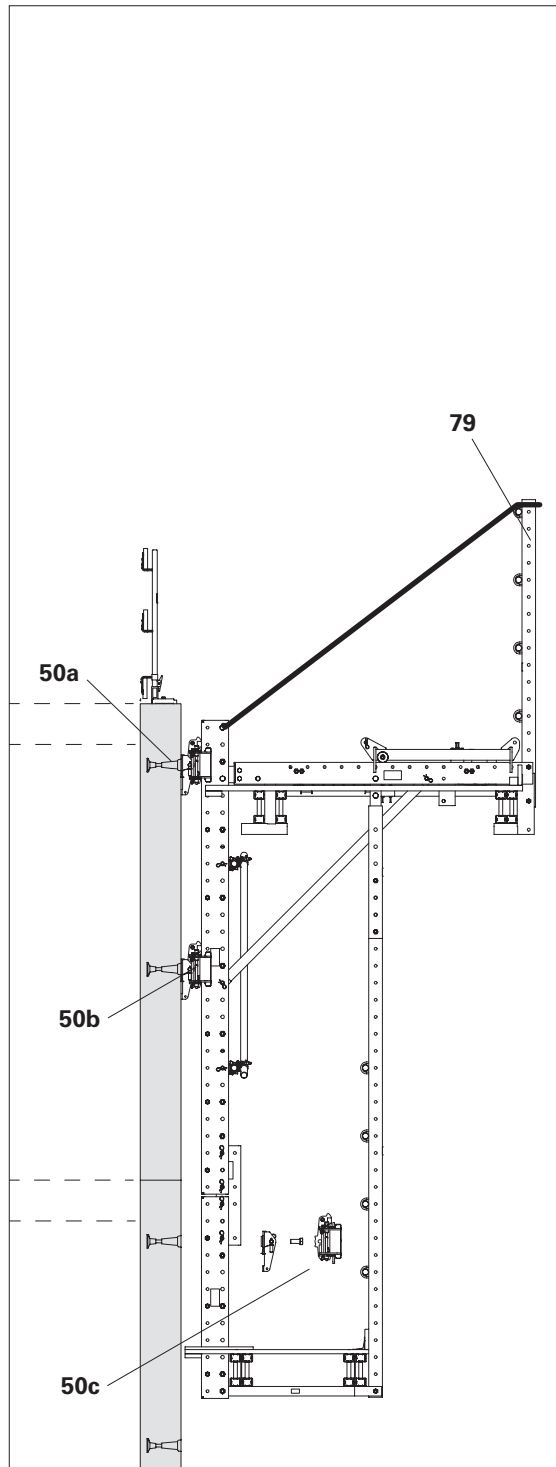

Fig. E1.02
2. Remove or brace the lateral protection (**79**) of the work platform. See Section "C2 Pre-assembling the console bracket unit" on page 74. (Fig. E1.02)